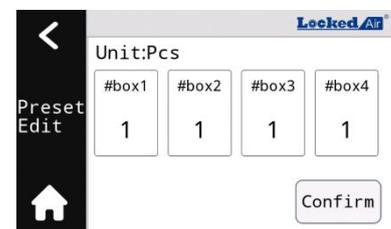

Figure 5b
- a. **Preset:** Tap  to enter edit interface. (Figure 5b)